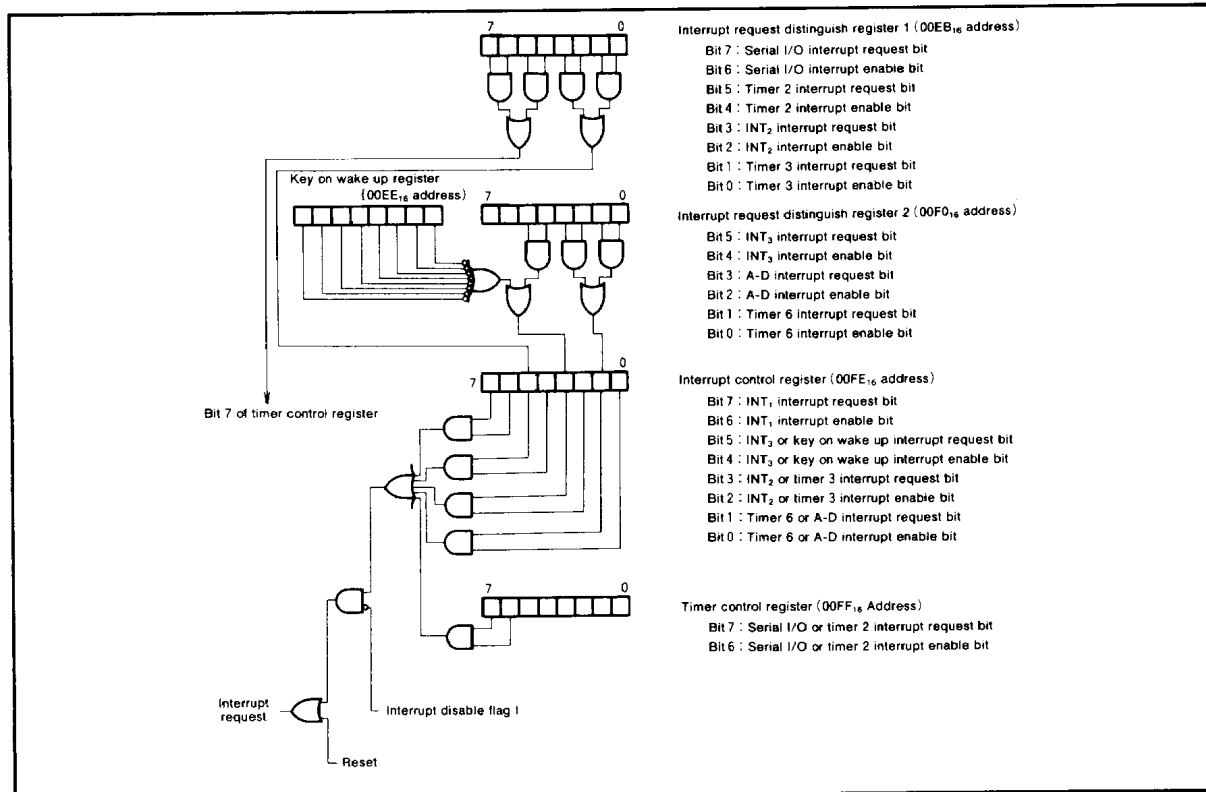

Fig. 3 Interrupt control
When an interrupt is accepted, the contents of certain registers are pushed into specified locations, as discussed in the stack pointer section, and the interrupt disable flag (I) is set, and the program jumps to the address specified by the interrupt vector, and the interrupt request bit of the interrupt control register or timer control register is cleared automatically. The reset interrupt is the highest priority interrupt and can never be inhibited. Except for the reset interrupt, all interrupts are inhibited when the interrupt disable flag is set to "1". All of the other interrupts can further be controlled individually via the interrupt control register shown in Figure 3. An interrupt is accepted when the interrupt enable bit and the interrupt request bit are both "1" and the interrupt disable flag is "0".